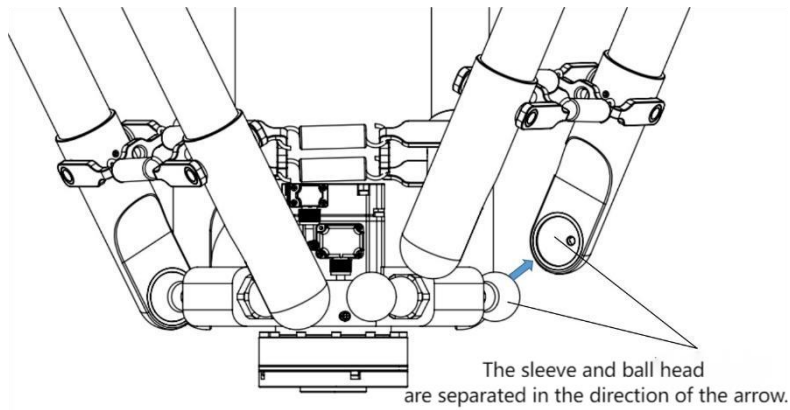

Figure 3-6 Schematic diagram of end disassembly of moving platform
Step 2 Pull open the spring connected with the moving platform to separate the bushing from the ball head, as shown in Figure 3-6.